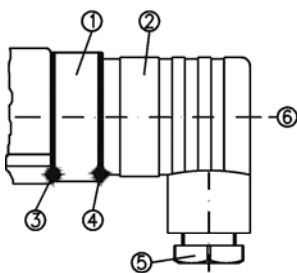

Fig. 7
- ⇒ Loosen the central screw (pos. 6) M3x35 and disconnect the junction box EN 175301-803-A (pos. 2) from the connector (pos. 1) (Fig. 7).